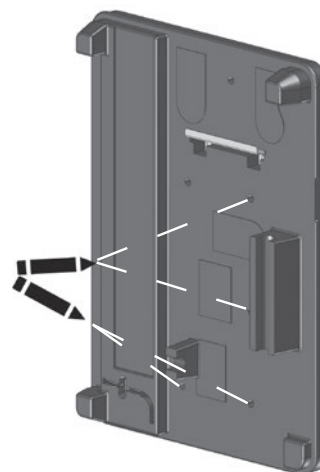
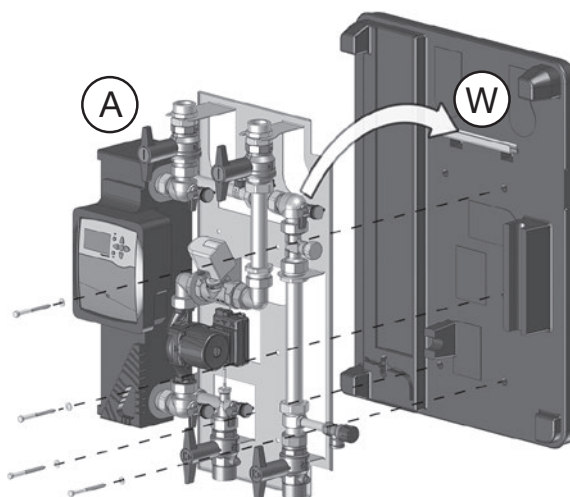

Fig. 4.5: Use the rear insulation shell as drilling jig for fixing the product assembly
Fig. 4.6: Hang the product assembly onto the angled wall bracket
8. Hang the rear insulation shell (U) onto the fixed angled wall bracket (W) and use it as drilling jig for the four screws provided for the fixing of the product assembly (A) (Fig. 4.5). The base plate and the rear insulation shell feature six bore holes.
9. Select and mark four drill holes. Remove the rear insulation shell (U) from the angled wall bracket, drill the holes and equip them with the supplied dowels.
10. Hang the rear insulation shell (U) onto the angled wall bracket (W).
11. Hang the product assembly (A) onto the angled wall bracket (W) and fix it onto the wall with the help of the supplied four screws M 8 x 100 and washers (Fig. 4.6).